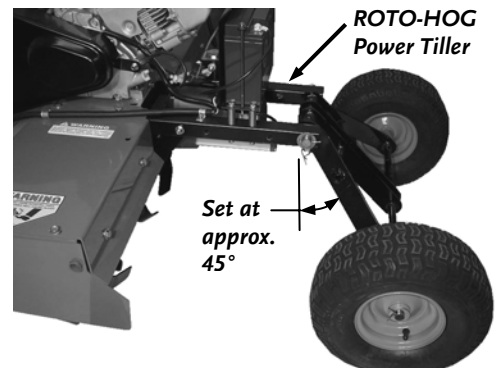

Figure 19
1. Rotate the ROTO-HOG Power Tiller Wheels to their halfway position with the ROTO-HOG Control Box (**Figure 19**).